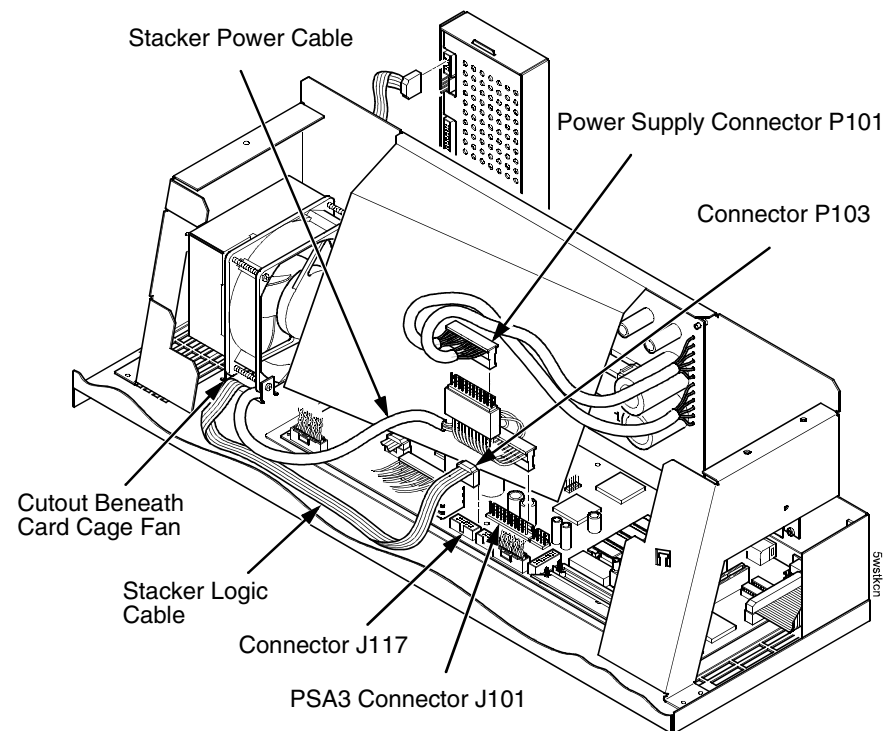

Figure 71. This figure shows where to attach the power stacker power and logic cables on the PSA3 controller board.
5. Connect the power stacker logic cable P103 to connector J117 on the controller board. (Figure 71.)
6. Disconnect the power supply cable from connector J101 on the controller board. (Figure 71.)
7. Connect power supply cable connector P101 to the stacker power cable, then connect the stacker power cable to connector J101 on the controller board. (Figure 71.)
8. Route the stacker power cable in front of the controller board and down through the cutout under the card cage fan. (Figure 71.)
9. Route the stacker logic cable in front of the controller board and down through the cutout under the card cage fan. (Figure 71.)